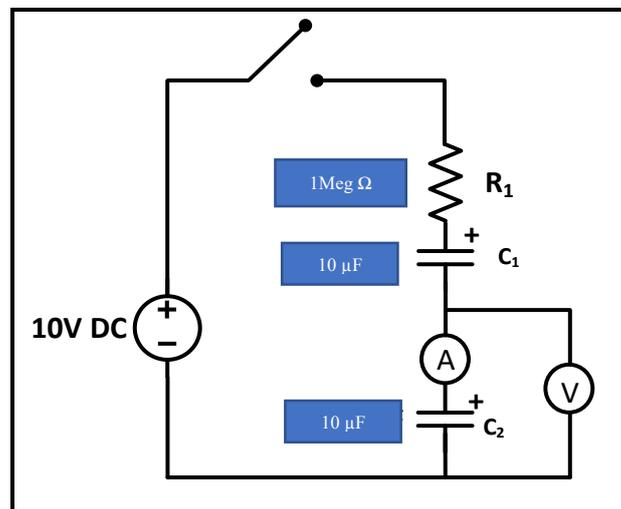

Figure 5.6
1. Connect the circuit of Figure 5.6 (note capacitor polarity), set voltmeter to 20 V range, set ammeter to 200 μA , and leave the power supply turned off (switch at 0 position).